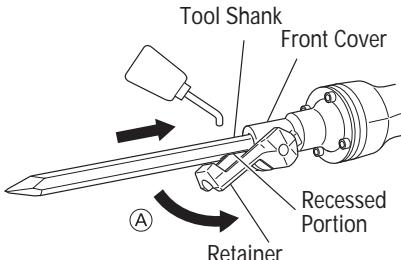

Fig. 6
- (1) Clean, then smear the accessory shank portion with grease or machine oil.
- (2) Move the retainer to position Ⓐ. Align the accessory shank portion so that its recessed portion is under clamp and seat the accessory such as a bull point, a cutter, etc., in the hexagonal hole in the front cover (See Fig. 6).